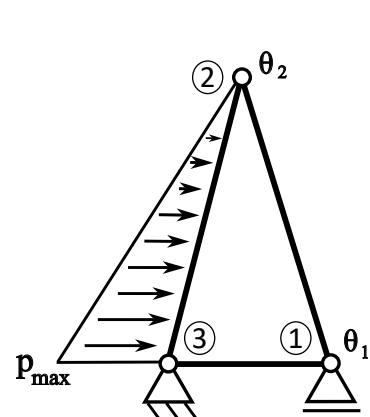

Fig. 1.3: Structure with Load
The structure is loaded by water pressure on its left side, see fig. 1.3. The load is modelled as a distributed linear load, with value 0 at node ② and p_{max} at node ③; vertical loading due to water weight is not considered. The structure is exposed to the sun heat on its right side, resulting in the prescribed temperature θ_1 at node ① and θ_2 at node ②.